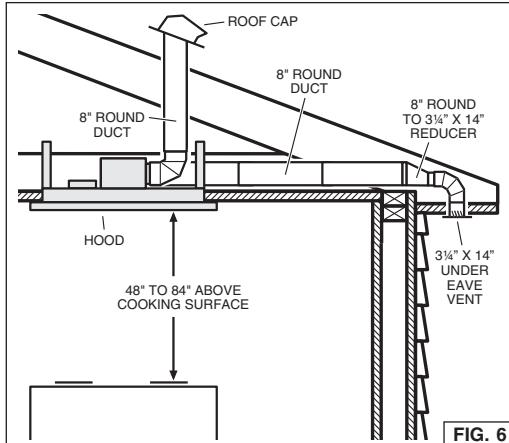

FIG. 6
1. Decide where the ductwork will run between the hood and the outside. Fig. 6.
The hood should always be centered over the cooktop. Make sure there is adequate space in the ceiling structure to install the hood and ductwork. The hood should be mounted 48" to 84" above the cook top for best removal of cooking impurities. Fig. 6.